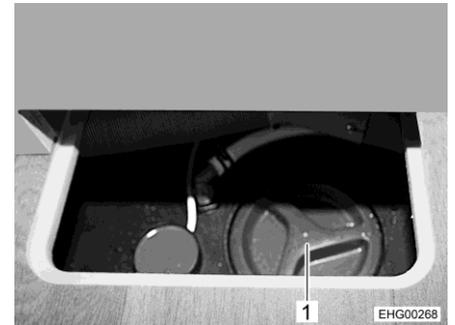

Fig. 143 Waste water tank
- Open the cleaning opening (Fig. 143,1) on the waste water tank.
- Close the cleaning opening (Fig. 143,1) on the waste water tank.